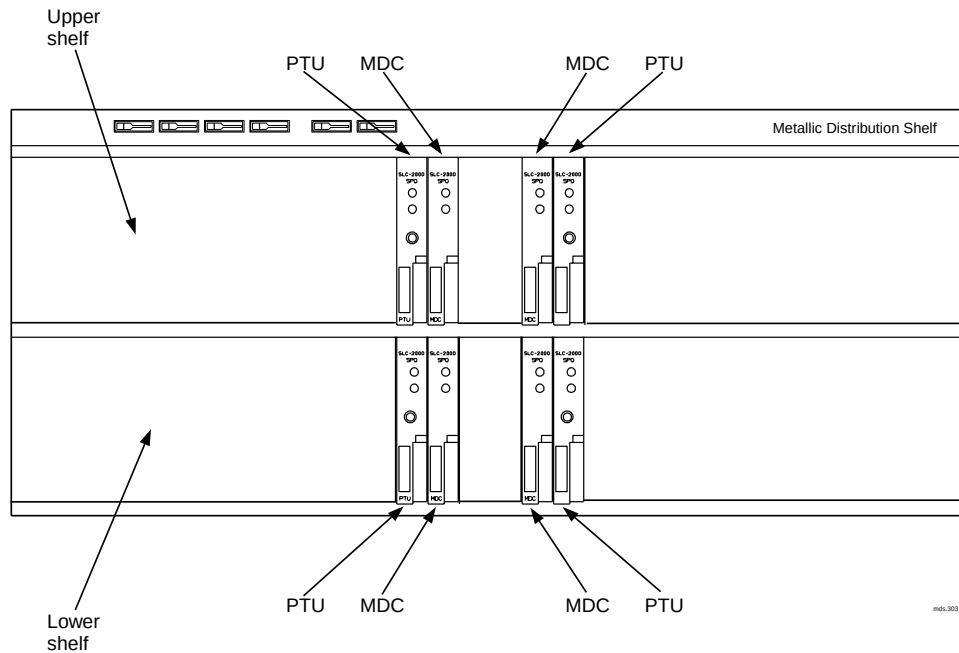

Figure 2 – Common Circuit Pack Locations (TR-303)
21. Install two **BDJ200 PTUs** in **PTU** slots of the appropriate shelf (ignore alarms) (Figure 2).